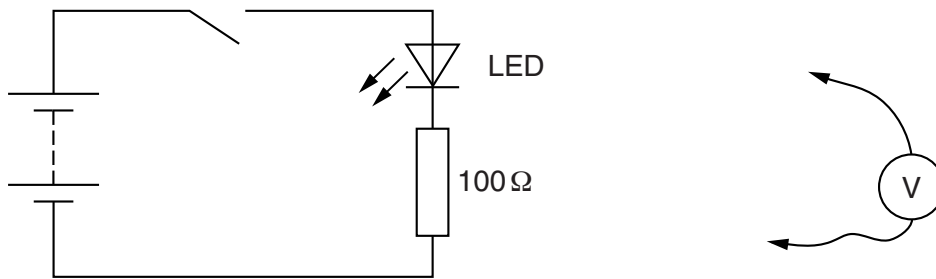

Fig. 2.1
Four connecting leads to enable the Supervisor to set up the circuit shown in Fig. 2.1 (see Note 4).
4. The Supervisor should set up the circuit as shown in Fig. 2.1.
5. At the changeover, the Supervisor should remove the $330\ \Omega$ resistor from the circuit and replace it with the $100\ \Omega$ resistor. The circuit should still be set up as shown in Fig. 2.1 with the voltmeter disconnected. The switch should be open.